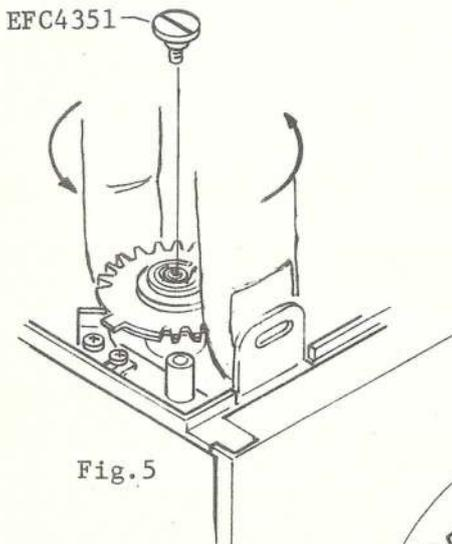

Fig.5
- Then turn EFC 4353K2 counterclockwise for 1 turn and fix it by Shoulder screw EFC 4351. Fig. 5